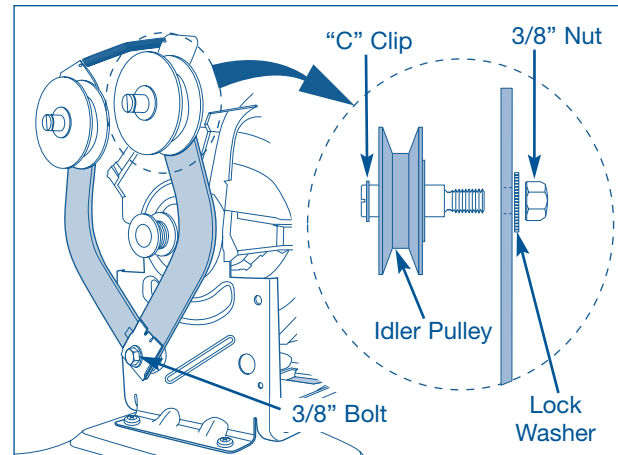

Figure 4-36.
2. Using a 3/8" socket or wrench, remove the bolt securing the belt tensioner to the motor mounting bracket. (See Figure 4-36)
To separate the motor from the blower assembly, remove the motor and blower assemblies as shown in figures 4-36 & 4-37, then follow the steps below.